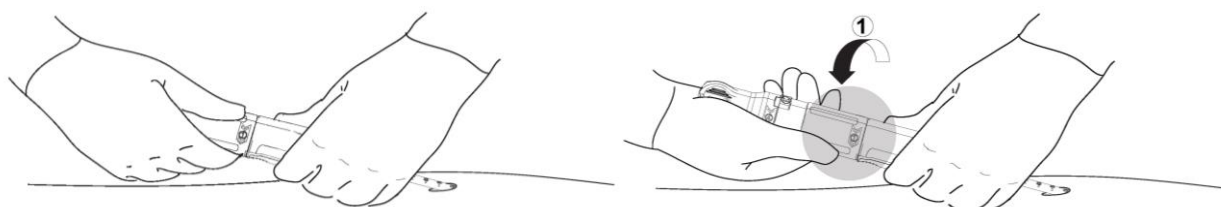

Figure 12. Step 1 of PerQseal® closure device Actuation (Unsheathing the implant).
Grip the distal end of the PerQseal® closure device handle (closest to patient). Stabilise the device in position by supporting this hand on the patient, Figure 12.
- a. Place hand on the sheath cam, marked '1' and rotate this grip section in the indicated direction 180° to align the dots. Ensure the hand gripping the distal end of the handle remains fixed and the handle remains stationary during this rotation, Figure 12. The implant is now exposed within the artery.